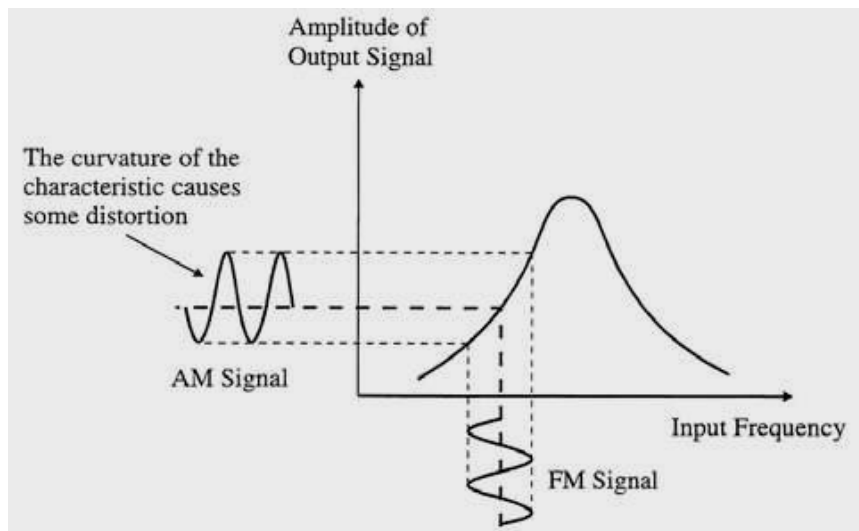

Figure 12: Detuned Resonant Circuit Detector Operation
In Figure 12 above, we can see that the amplitude of the output signal will increase and decrease as the input frequency changes. For example, if the frequency of the incoming signal were to increase, the operating point would move towards the right on the diagram. This would cause an increase in the amplitude of the output signal.
6. Plot the DC voltage at tp40 against frequency and check that the response is similar to that shown in Figure12.